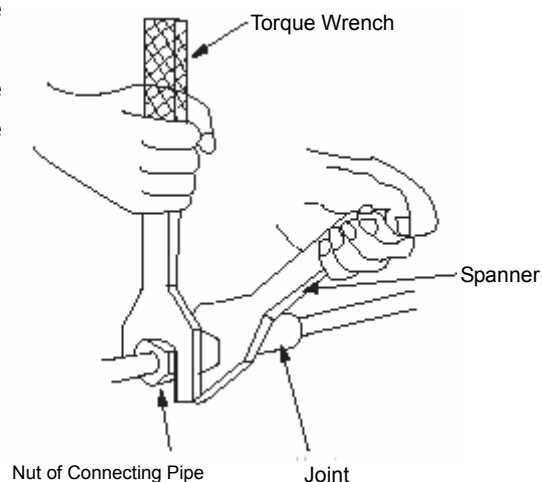

Figure 11-7
- Use force to manually tighten the nut of the connecting pipe and then use spanner to tighten the nut (refer to Figure 11-7).